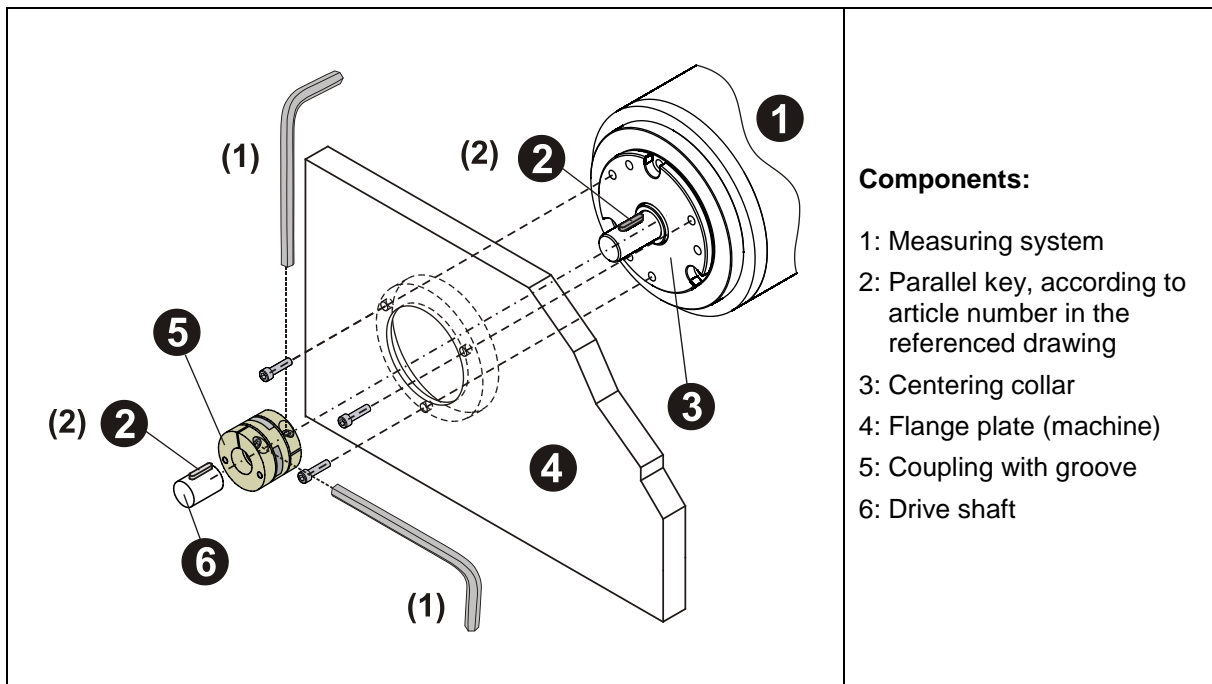

Figure 6: Installing the flange, illustration showing the principle
- Axial slipping of the measuring system on the drive shaft must be prevented by fixing the coupling in position, see Chapter: 5.1.2 Figure 6, (1).
- General recommendation: Radial slipping of the measuring system on the drive shaft should be prevented by a form-locking connection, using a parallel key / groove combination for example (Chapter: 5.1.2 Figure 6, (2)); a coupling with groove can be used for this purpose.